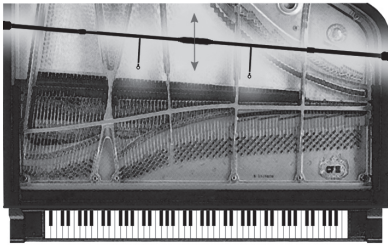

Figure 6. Facing the Mic Heads Towards the Dampers
4. The PianoMic™ can be placed inside the piano with the microphone heads either facing the dampers (*Figure 6*) or facing away from the dampers (*Figure 7*). For optimum results, the PianoMic™ System should be placed in the piano with the microphone heads positioned two to three inches away from the dampers. How you place the PianoMic™ System in the piano will depend upon the piano, its size and how it is made. This will govern whether the microphone heads can be faced toward or faced away from the dampers. It is best to position the PianoMic™ System so that the support bracket does not rest on the curved part of the piano case.